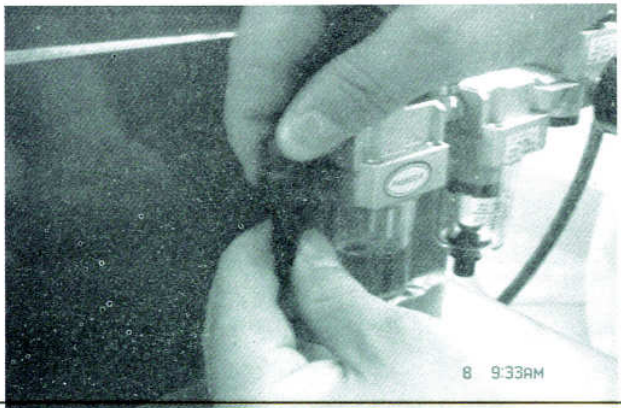

Fig4-11
4.2.13 Connect the air hose, detach the union on the $\phi 8$ PU hose on the side of body. This union is for the purpose to keep the air hose from falling into the body. Insert the union in front the air regulator see Fig4-10/Fig4-11.
Embed the inflation gun or inflation gauge box into the groove of the open nut on the air regulator (Fig4-11) . Tighten the open nut and connect the air route.